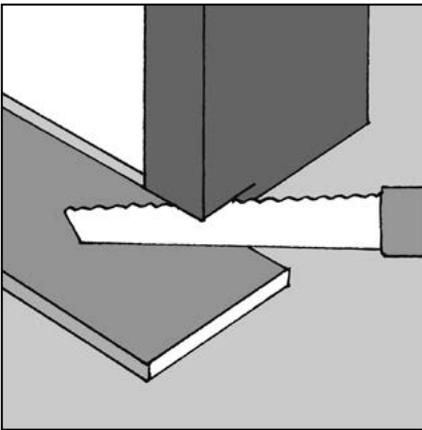

Figure 32 Door frames
- ▶ When installing interlocking flooring around a door frame, or architrave cut into the door frame or architrave with a handsaw; using an off cut plank as a guide for the height and the amount to trim off the door frame (fig. 32 adjacent). Slide the cut piece under the door frame.